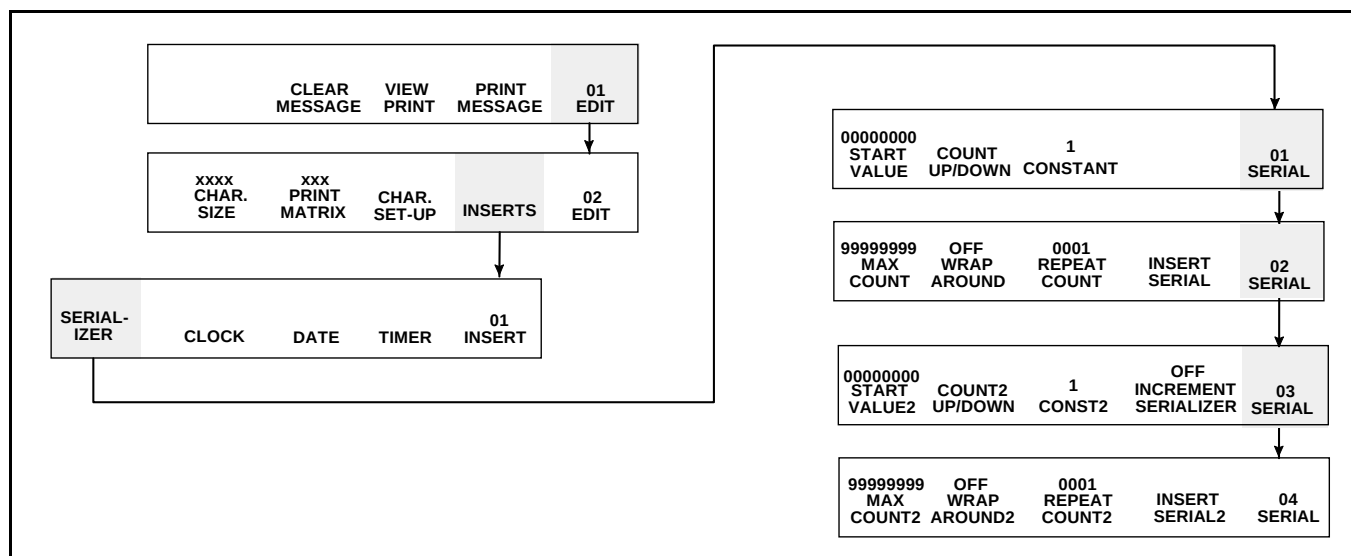

Figure 6-34. Accessing Frame <01 SERIAL>
1. Begin in Frame <01 SERIAL>. Refer to Figure 6-34.
10. Press **F5** to go to Frame <02 SERIAL>. Refer to Figure 6-34.